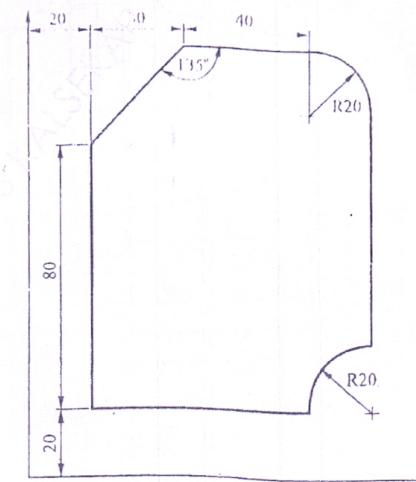

Figure 2
- (B) Consider a triangle ABC having coordinates  $A(5,5)$   $B(8,5)$  and  $C(5,10)$ . Determine the new vertex position if: 10
- Q.4 (A) Write short note on (i) Essentials of Computer Aided Design workstations and its functions (ii) Visual realism 10
- (B) Write a complete APT program (geometric and motion commands) to machine the outline of the geometry as shown in Figure 2. The component is 5 mm thick. The milling tool used is 5 mm in diameter. Consider spindle speed as 1000 rpm and feed as 0.3 mm/rev. Assume suitable data if necessary. 10